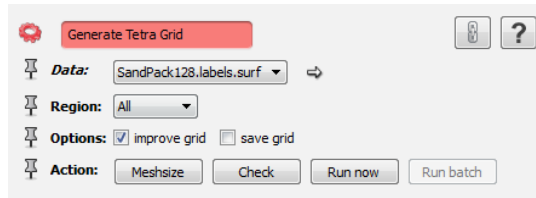

Figure 7.13: *Generate Tetra Grid* module.
- Connect a *Generate Tetra Grid* module to the surface (see Figure 7.13).